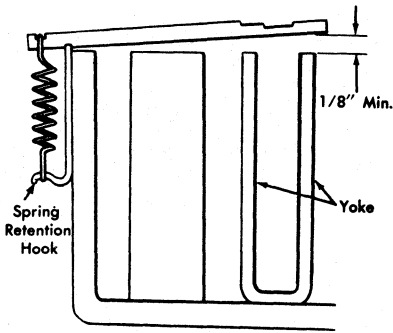

Figure 32. Armature Adjustment
2. Form armature spring retention hook to lift tip of armature until there is at least $\frac{1}{8}$ -inch free movement to the operating end (Figure 32).